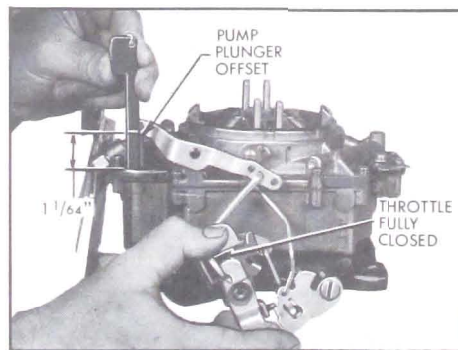

Figure 3-79—Checking Pump Plunger Adjustment
10. **Pump Plunger Adjustment.** Push fast idle cam to full down position and back out throttle stop screw until primary throttle valves can be fully closed. With throttle held closed and pump rod in center hole of lever, measure vertically from under side of pump plunger offset to air horn casting. See Figure 3-79. Measurement should 1-1/64".